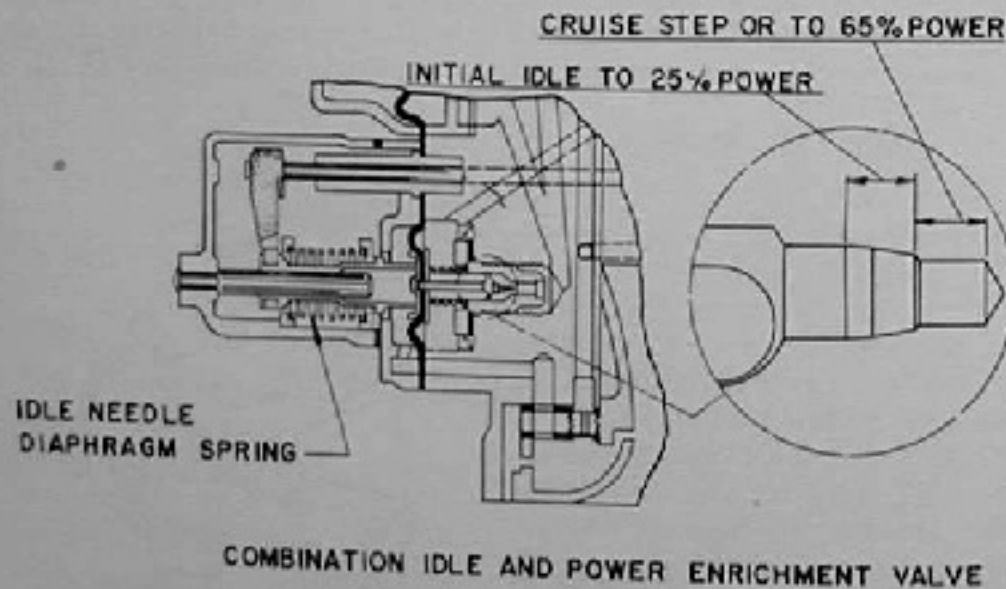

Figure 8. Typical "C" Idle Needle and Power Enrichment Needle
c. On carburetors equipped with the manually controlled power enrichment valve the idle needle is of the "step design" having two major diameters, the larger controls fuel flows to approximately 25% power, the smaller diameter controls fuel flows from the 25% power range to about 65% power, (cruise range). See figures 8 and 9 for details of typical idle needles used in the "PS" type carburetors.